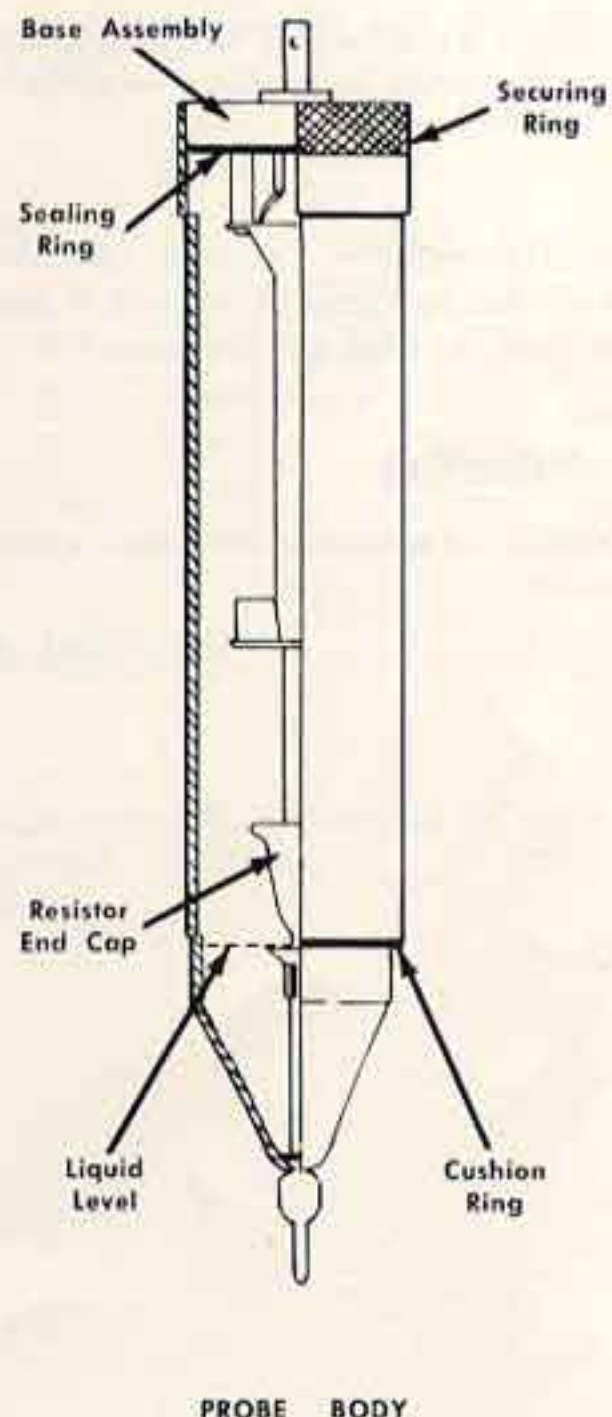

Fig. 3-1. Cutaway drawing of P6015 Probe.
1. Uncouple the two halves of the probe body cover and remove the probe body. (See Fig. 3-1)